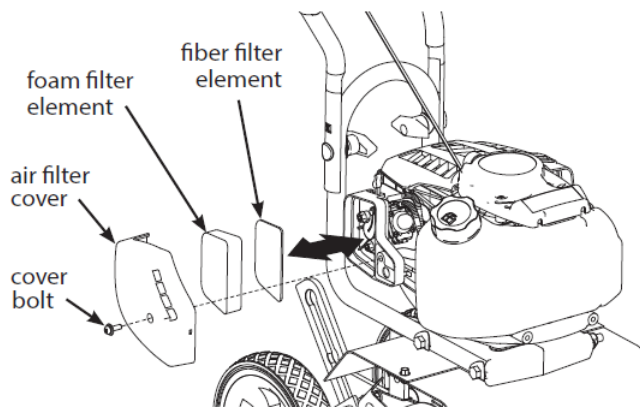

Figure 13
3. Remove the foam filter and fiber filter elements. Replace with a new fiber filter and a new oiled foam filter (**Figure 13**), or clean the original foam and fiber filters with warm water and mild soap.